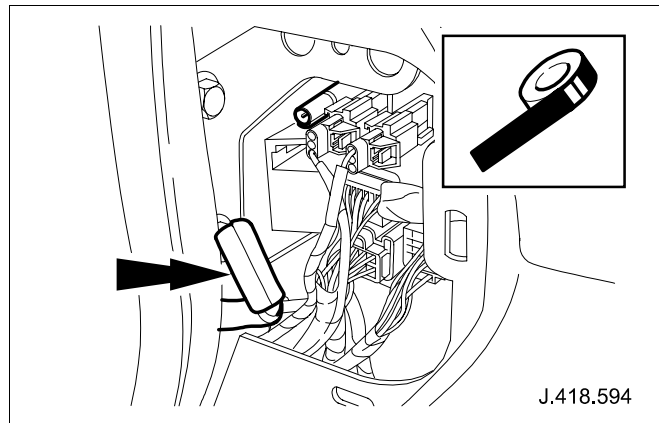

Fig. 28
- 103 Wrap adhesive foam around redundant Jaguar antenna lead plug. (See Fig. 28)